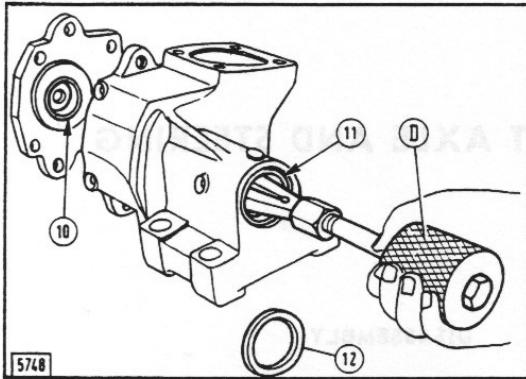

FIG. 12-16 Removing steering box nut shaft bushing (11) by means of puller. (10) Cover bushing. (12) Oil seal.
In case of replacement, remove bushings (10 and 11, Fig. 12-16) from steering box and from side cover by means of appropriate puller (D, Fig. 12-16); notice that bushing (11) is removed after oil seal (12).
Try worm screw roller bearings for free running and check oil seal (12, Fig. 12-16) for efficiency and reliability.
Install oil seal (12, Fig. 12-16).